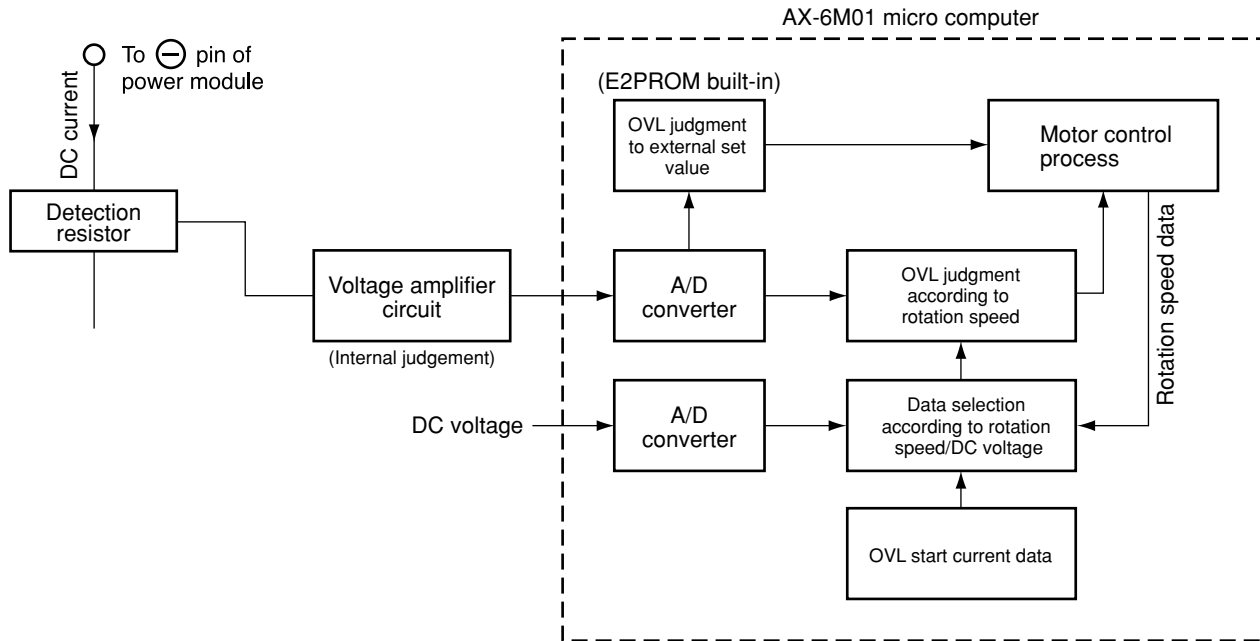
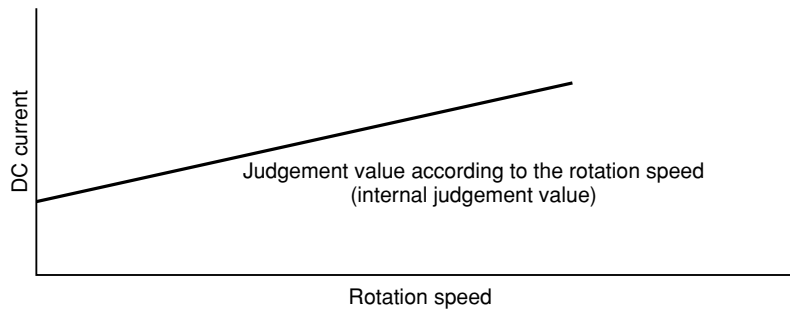

Fig. 8-1 Overload Control System Configuration
Fig. 8-2
- As shown in diagram, when current exceeding 24A flows, voltage at point (A) detected by detection resistor is input to pin ⑨ of INV-HIC, and voltage divided by R41 and R43 is input to pin ⑨ of IC1. Since this voltage exceeds threshold of IC1, LO is output from pin ⑧ (voltage at point (B)). When LO is input to pin ⑨ of microcomputer, microcomputer stops drive output.
- Fig. 8-1 shows the overload control system configuration and Fig. 8-2 shows characteristic diagram of overload judgement values. There are two judgements. One is external judgment: External set value and DC current value are compared for judgment regardless of rotation speed. The other is internal judgment: set value varying according to rotation speed programmed in microcomputer is compared with DC current value for judgment.